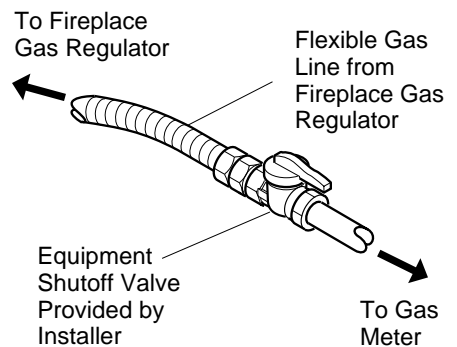

**Figure 17 - Removing Log Base Assembly From Fireplace**
2. Remove screws that attach log base assembly to fireplace (see Figure 17). Carefully lift up log base assembly and remove from fireplace (see Figure 17).